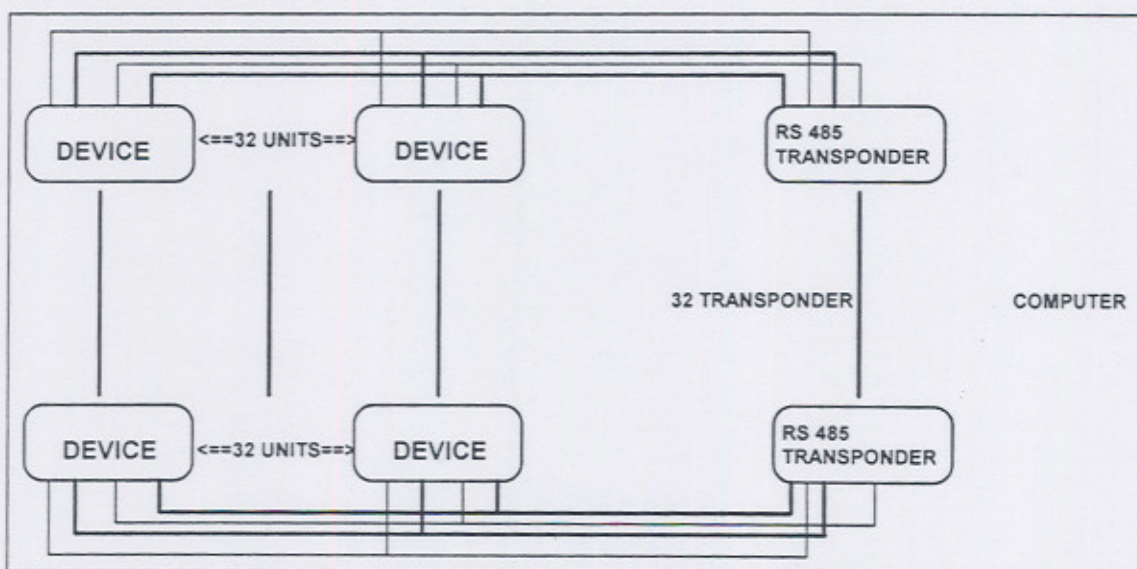

Figure 3.5 4-Wire RS-485 Communication Installation Connection with Transponder
- Meanwhile, in a four-wire connection, a maximum of 3600 instruments can be included in the same link, (Figure 3.5).